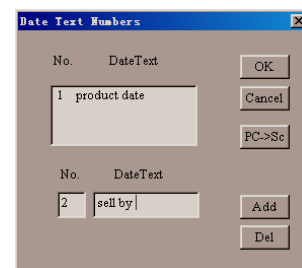

Fig. 6-17
- ☞ Here will show DATE TEXT dialog box as fig. 6-17.